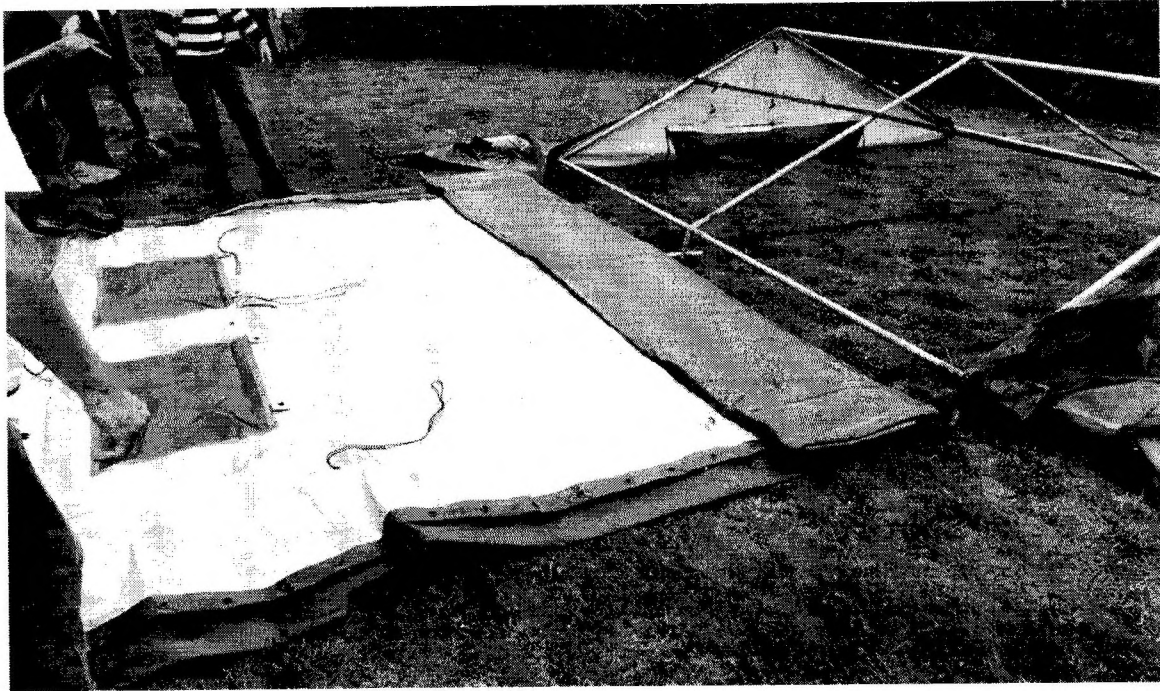

Figure 20: Roof and wall panel laid out ready for fitting on the roof
30. The roof and wall cover should be placed over the roof framework. It is easier to fold the cover to position for connection with the end wall, this eases access to the keder rail or the dutch lacing as shown in Fig 20.